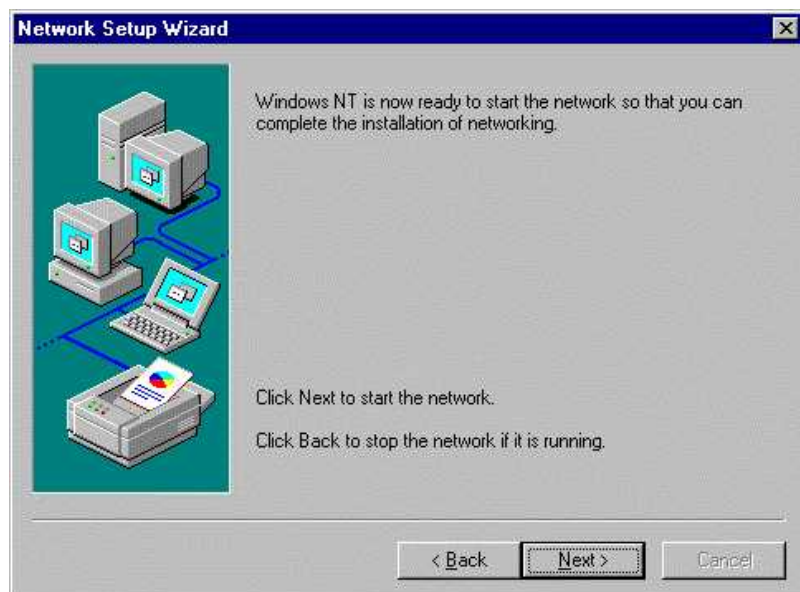

Fig. 8-17
- Select "Next" in the dialog box. Windows then starts the network (Fig. 8-17).